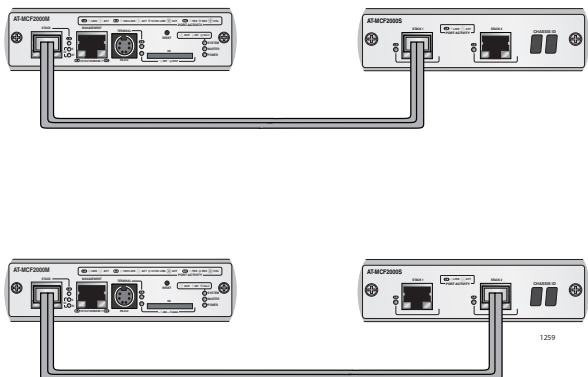

Figure 7. Connecting the Management and Stacking Modules
1. To connect the AT-MCF2000M Management Module to the AT-MCF2000S Stacking Module, connect the Stack port on the management module to either the STACK 1 or STACK 2 port on the stacking module. See Figure 7 on page 24.